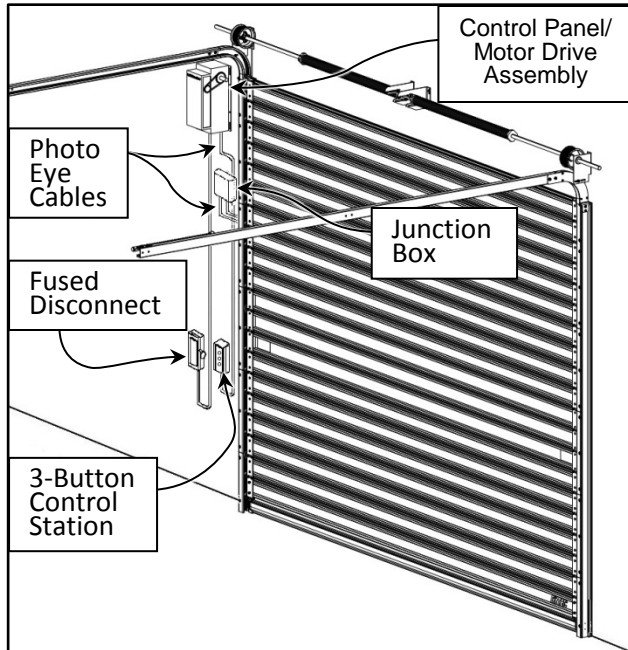

Figure 91
The pushbutton control station is part of the door's Control Panel/Motor-Gear Drive Assembly and provided to serve as 1 method of operating the door. It is to be field-installed on the front of the door installation as shown in the general layout. Refer to the Door Operator's Installation Manual, User's Guide, & the Door's Electrical Schematic for information & procedure on photo eye installation, and electrical connections. Install per these documents. (See Figure 91)
1. Route the drive motor power cables, leading from the motor junction box, to the control panel/motor drive connections as shown. Refer to the door's electrical schematic diagram shipped with the small parts, Door Operator's Installation Manual, & User's Guide. (See Figure 91)
1. The two control cables for the field-installed photo eyes must be routed from each one through conduit to the control panel/motor-drive. (See Figure 91)
1. Route the electrical wires/control cables for the field-installed 3-Button Control Station from the Door Operator's Control Panel/Motor-Drive to the 3-Button Control Station per the door's electrical schematic wiring diagram shipped with the small parts, the Door Operator's Installation Manual, & User's Guide. (See Figure 91)
Refer to the Door Operator's Installation Manual & User's Guide on how to install and operate this feature. This Rytec door is equipped with an electric motor brake system that stops the motor and doesn't allow it to freely travel when not running. It is also equipped with an electric motor brake override system (chain hoist) that allows the door to be manually opened or closed in the event of an emergency or power outage. A release system on the motor assembly controls the operation of the chain hoist, located on the side of the drive motor, which is typically mounted next to the door's side column & below the drive shaft. (See Figure 91)